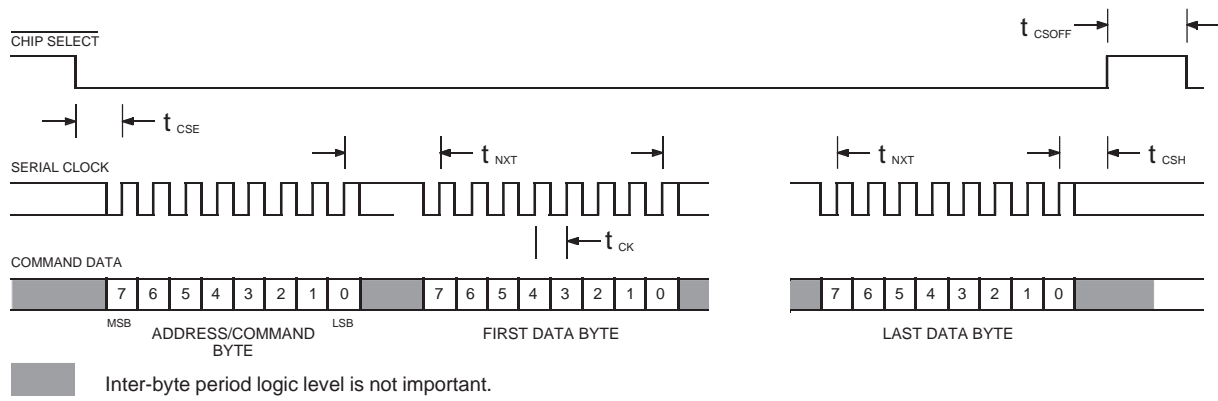

Fig.6 "C-BUS" Timing Information
**Command Loading** Address/Commands and data bytes must be loaded in accordance with the information given in Figure 6 (Timing).